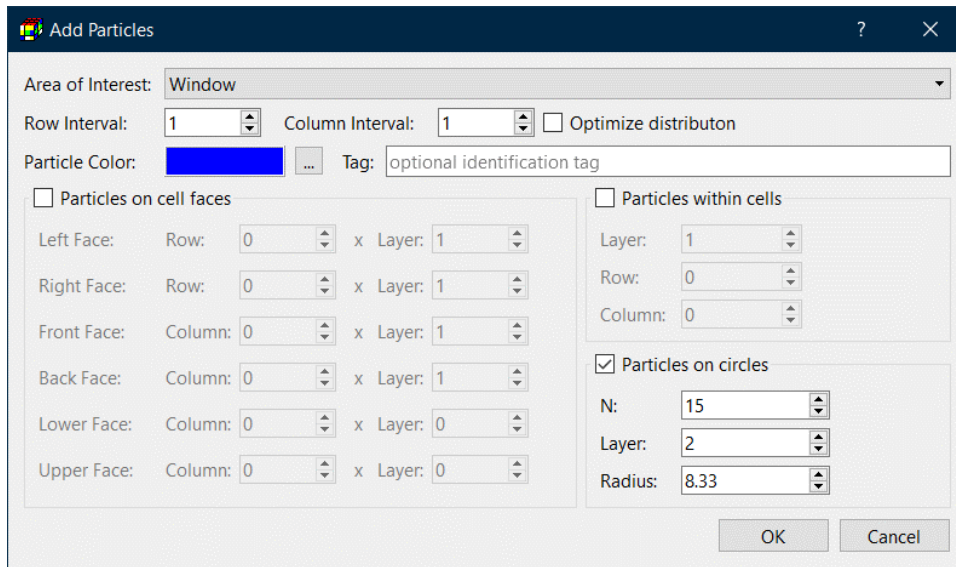

Figure 16. Adding particles on circles with the Add Particles dialog box
- Release the left mouse button. The Add Particles dialog box appears. Assign the settings and numbers of particles to the dialog box as shown in Figure 16. When finished, click OK to close the dialog box.